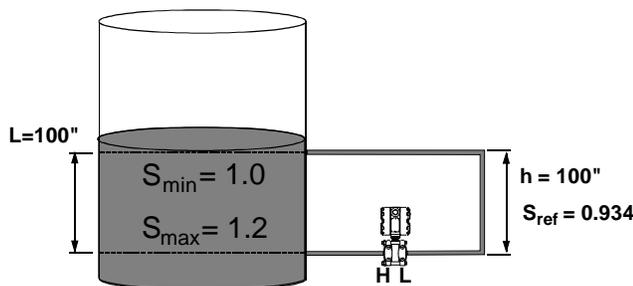

FIGURE 5. Closed tank, wet leg or remote seal and capillary, varying level, transmitter horizontal to tap
Often the density of a fluid must be determined in a vessel where the level is changing and a reference column is impractical. In this case, a differential pressure (DP) measurement can be made. In this situation, the measured height is the distance between the high and low pressure taps. The upper tap must be covered by the process fluid at all times. The connection between the upper tap and the transmitter can be either a wet leg or a remote seal and capillary (Figure 5). In either case, the calibration must account for the reference height contributed by the wet leg or the capillary. This is done by subtracting the reference height times the S_{ref} value from the process (between taps) height, times the process specific gravity.